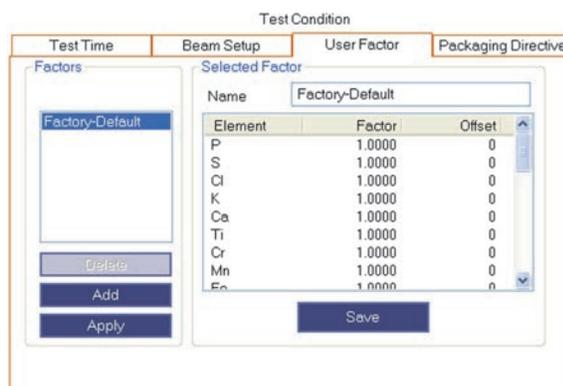

Figure C-2 The User Factor tab (RoHS/WEEE)
3. On the **User Factor** tab, click **Add** (see Figure C-2 on page 127).
1. On the **User Factor** tab, click **Add** (see Figure C-2 on page 127).